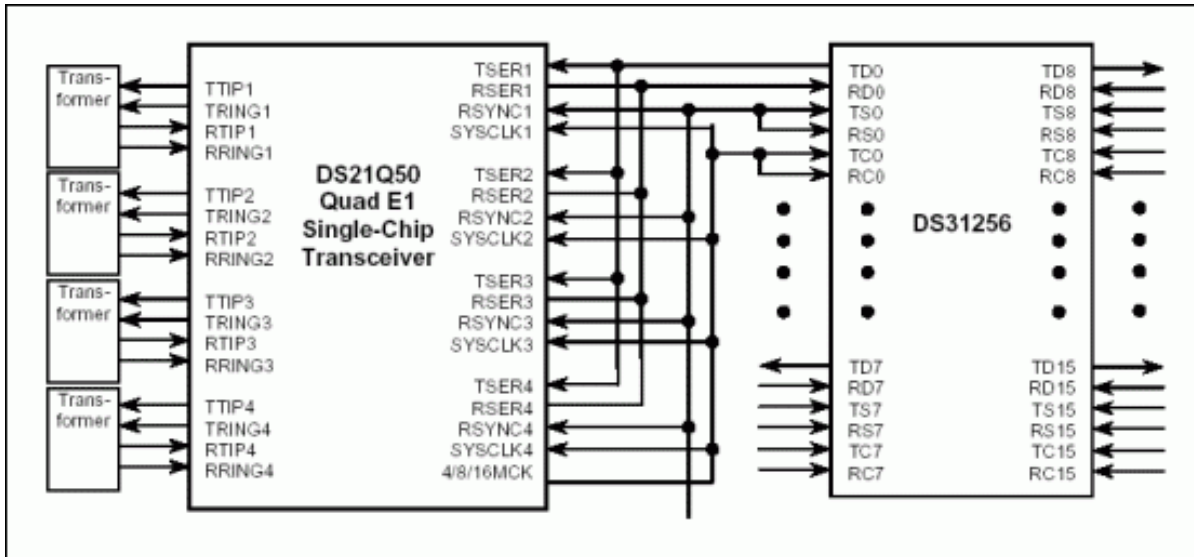

Figure 5. DS21Q50 connected to DS31256 in 8M mode.
**Figure 5** shows the connection between the DS21Q50 and DS31256 in 8M mode. In order to ensure data integrity in IBO mode, all clock and sync signals should be phase-aligned. The receive-elastic store for each of the four transceivers must be enabled. They should all receive the same frame-reference pulse (RSYNC) and 8.192MHz system clock (SYSCLK). In this case, the phase-locked frame pulse is provided by the